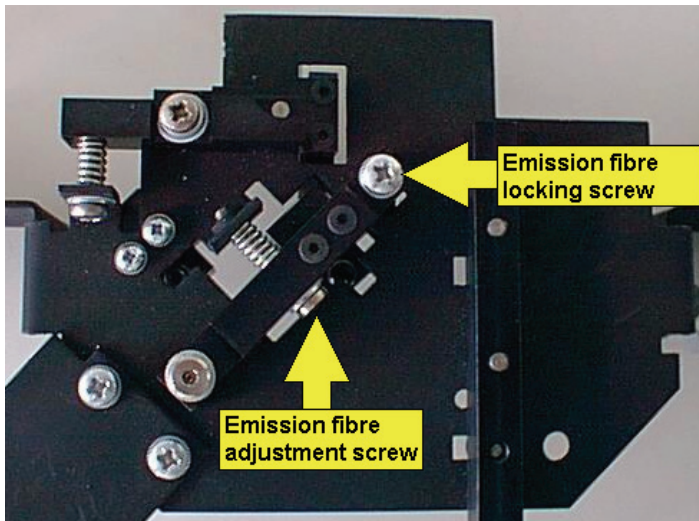

Figure 65 Emission fibre screws
21. Loosen the emission fibre locking screw, as shown in Figure 65.